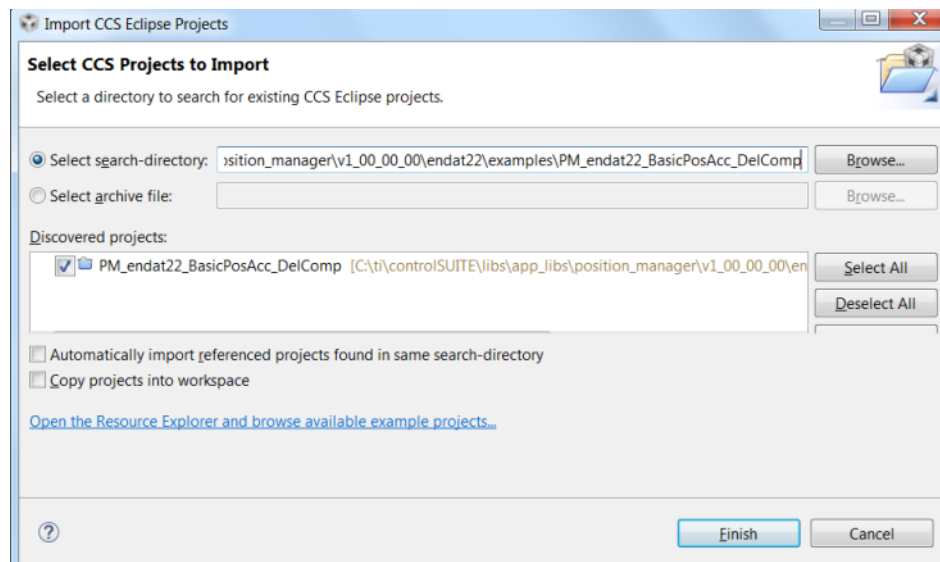

Figure 13. Adding PM EnDat22 Example Project to Workspace
- (b) If there are multiple projects in this directory, choose the projects to import and then click Finish. This copies all of the selected projects into the workspace. There is only one project in Figure 13, select it and click Finish.